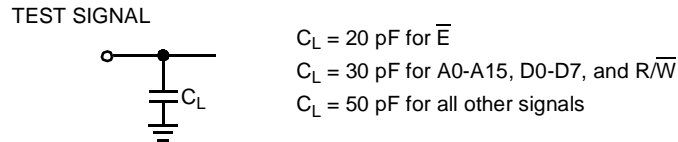

Figure 2. Signal Loading for Timing Specifications Unless Otherwise Specified
11. The three-state condition is when the device is not actively driving data. Refer to *Figure 2* and *Figure 5* for detailed measurement information..